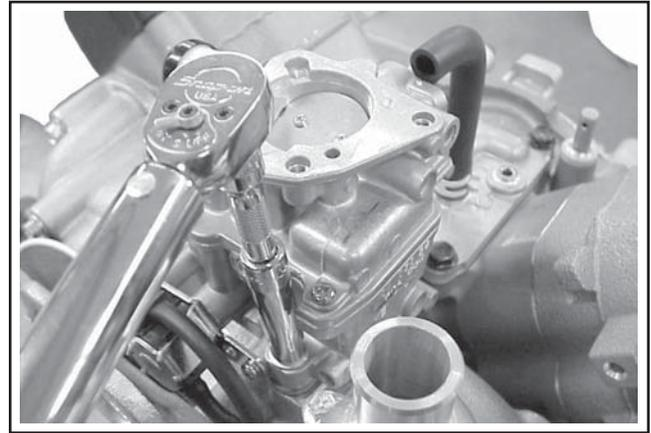

Figure 11-80. Torquing Carburetor Mounting Screws.
3. Attach the longer ends of the throttle linkage and spring to the carburetor (if disconnected previously), then install the carburetor onto the intake manifold. Install and torque the two mounting screws to **6.2-7.3 N·m (55-65 in. lb.)**. See Figures 11-80 and 11-81.